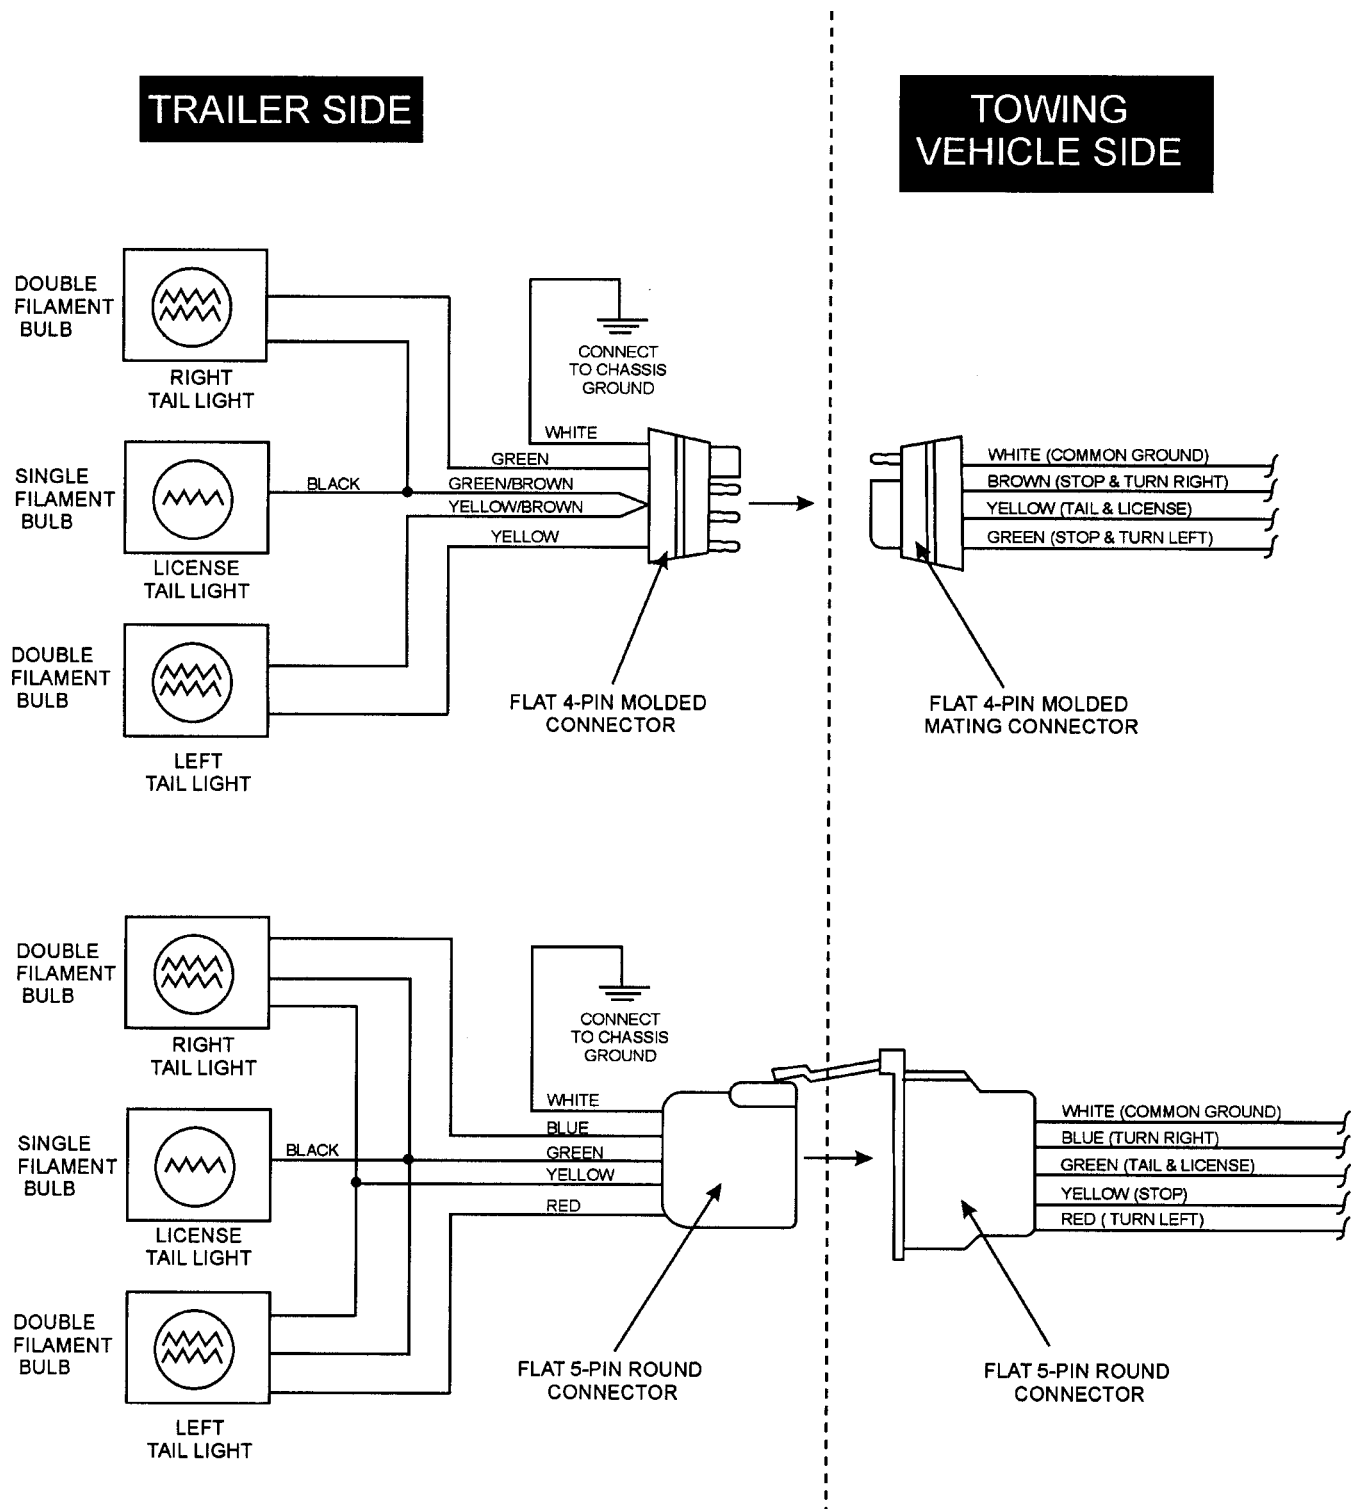

**Figure 5. Wheel Lug Nuts Tightening Sequence**
2. Torque all lug nuts in sequence. See Figure 5. DO NOT torque the wheel lug nuts all the way down. Tighten each lug nut in 3 separate passes as defined by Table 4.